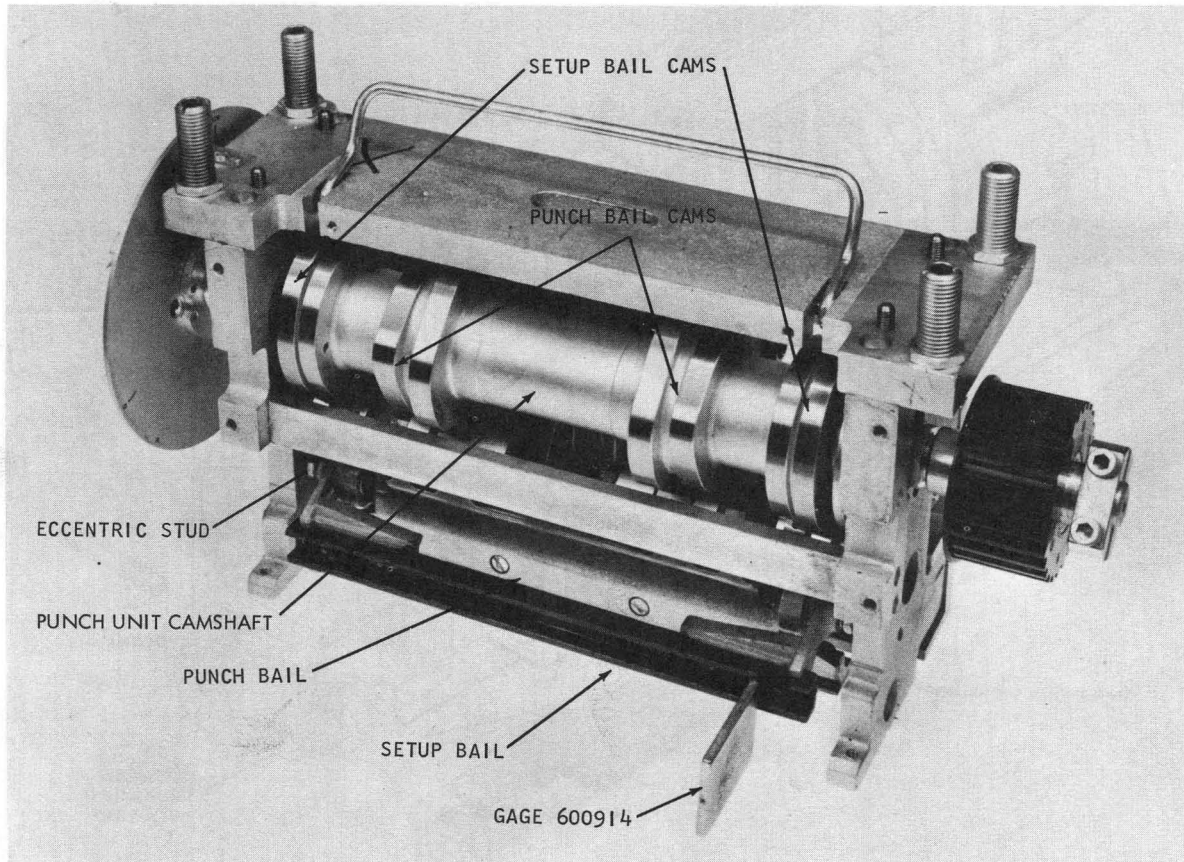

Figure 3-33. Drive Unit
2. With punch unit at room temperature, adjust so a .002" feeler gage (placed between the cam follower bearings listed below and their respective cam surfaces) experiences moderate drag at tightest point as cam shaft is rotated through one revolution. See Figure 3-33.
4. Set the drive unit on a flat surface and place gage 600914 as close as possible to right side frame. See Figure 3-33. Setup bail height must be gaged as closely as possible to drive unit side frame. Side frames must be in contact with surface on which gage is resting.
5. Turn punch unit camshaft until setup bail rests on top of gage. See Figure 3-33. Note index setting.
7. Check index setting again to ensure that it has not changed since Step 5. The setup bail should rest on top of gage as in Step 5. Use eccentric stud at left end of bail to satisfy this condition. See Figure 3-33.